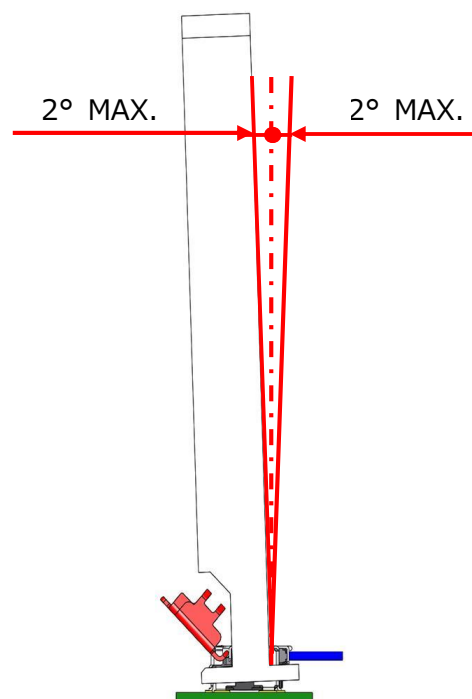

Fig.23 Allowance connector mating angle
- Allowable mating angle is shown in Fig.23. When the jig is lifted up to un-mate the cable connector, The unmating angle must be within this tolerance.